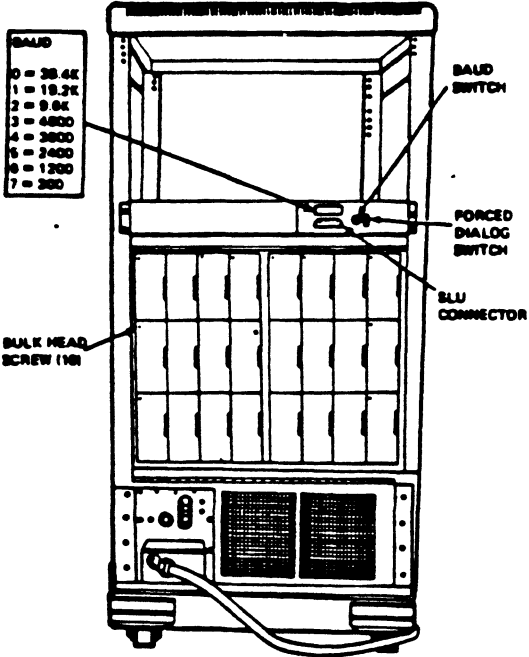

FIGURE 5-31 CABINET REAR VIEW
- 10. Loosen the ten screws securing the bulkhead to the cabinet frame and lower the bulkhead. See Figure 5-31.